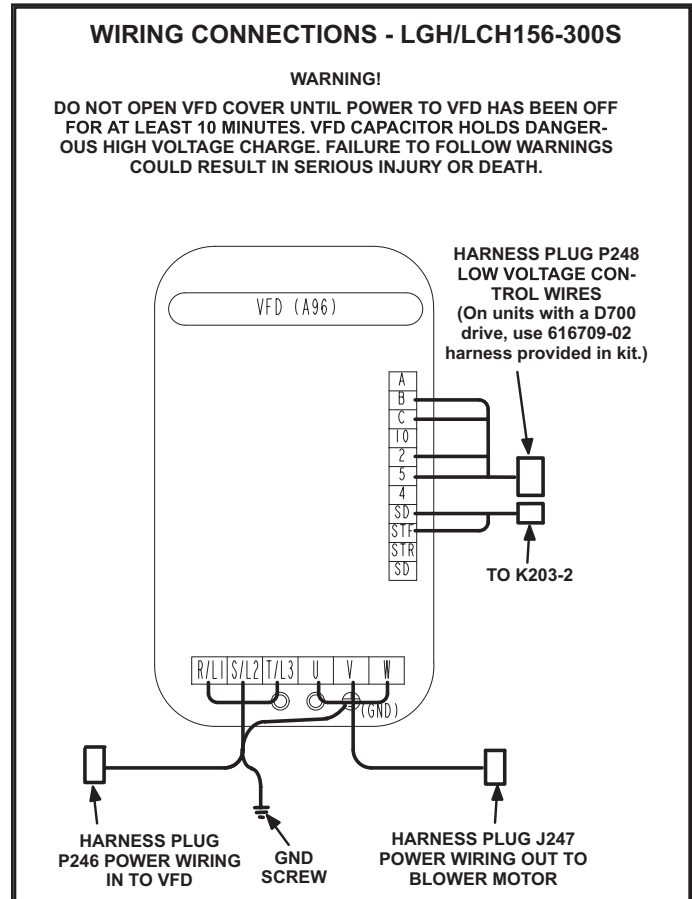
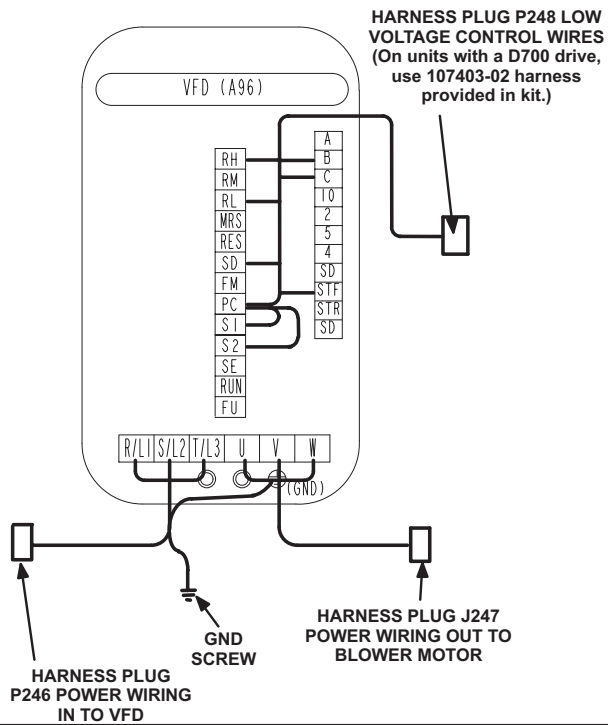

FIGURE 7
FIGURE 10
- 2 - Open the lower cover on the VFD to access wire connections. Disconnect the wires from the terminals, making special note of the wire color and stamping that was connected to each terminal. See FIGURE 7 through FIGURE 10.
- 1 - Disconnect all power to unit and WAIT AT LEAST 10 MINUTES before opening the VFD cover. See figure 10 for location.